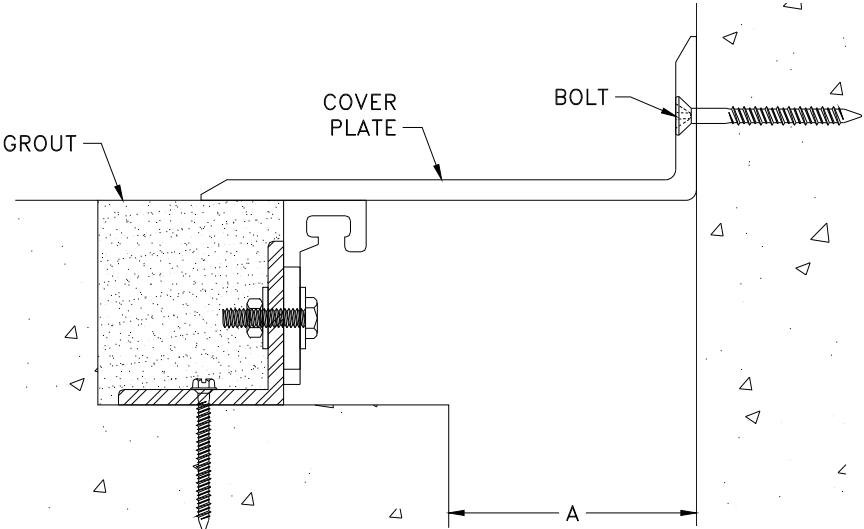

Figure 18
- STEP 35.** Repeat Step 27 through Step 34 for each subsequent section of the floor-to-wall cover plate (see Figure 18).